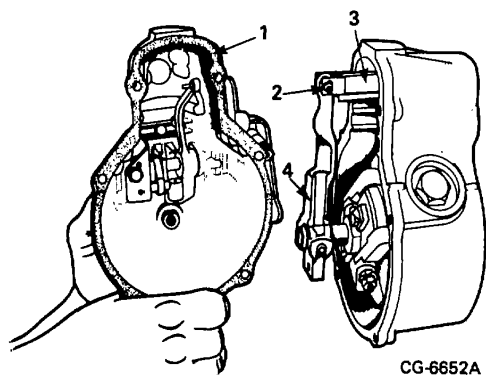

Figure 10. Removing Governor Cover
6. Remove six governor cover screws and take off governor cover (Figure 10). Lift cover up and operate control lever to release internal linkage.